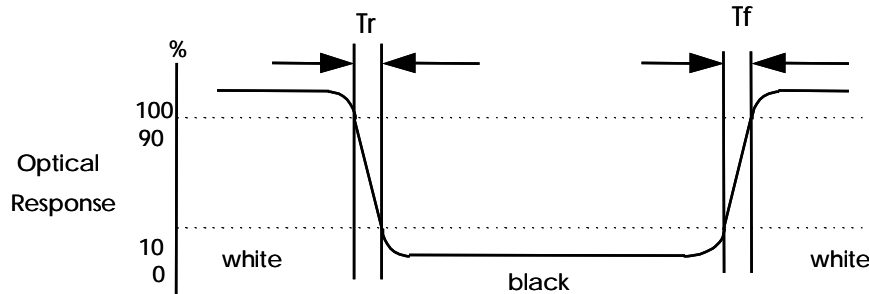

FIG. 2 Measuring method for Contrast ratio, surface luminance, Luminance uniformity , CIE (x, y) chromaticity
Note 1. Contrast Ratio(CR) is defined mathematically as For more information see FIG 2.:
Note 2. Surface luminance is the LCD surface from the surface with all pixels displaying white. For more information see FIG 2.
Note 3. The uniformity in surface luminance, d WHITE is determined by measuring luminance at each test position 1 through 5, and then dividing the maximum luminance of 5 points luminance by minimum luminance of 5 points luminance. For more information see FIG 2.